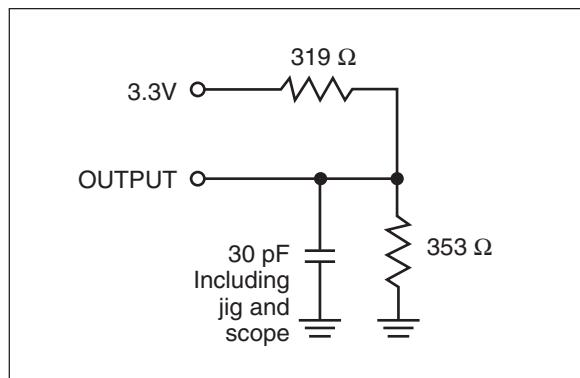

Figure 1a.
Output Load	See Figures 1a and 1b
1. Test conditions assume signal transition times of 3 ns or less, timing reference levels of 1.5V, input pulse levels of 0 to 3.0V and output loading specified in Figure 1a.
- Test conditions assume signal transition times of 3 ns or less, timing reference levels of 1.5V, input pulse levels of 0 to 3.0V and output loading specified in Figure 1a.